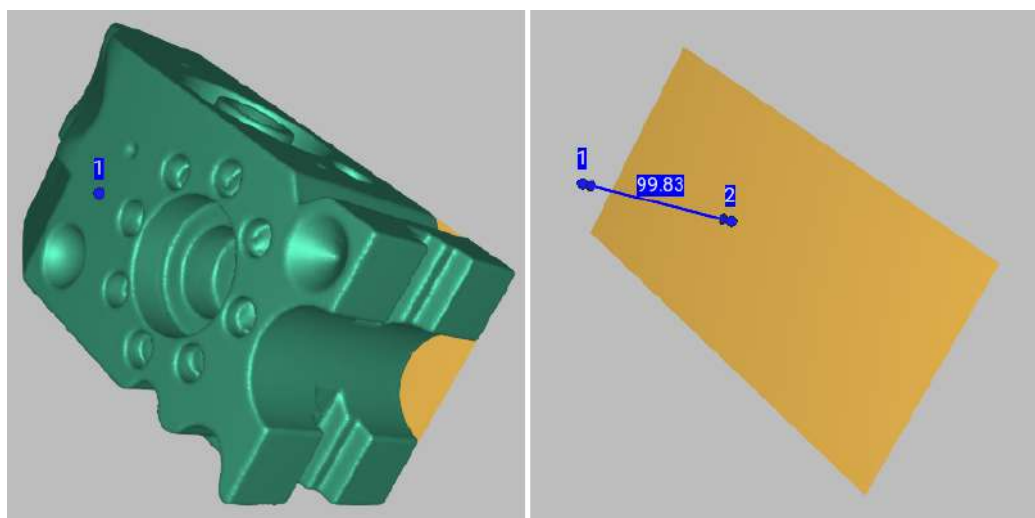

Figure 139: Thickness measurement: selecting a point on the side opposite to the plane (left), clicking the plane to determine distance to it (right).
1. In the *Construct* panel, build a plane (shown in orange in Figure 139) that fits the side surface of the model (find out in *Constructing CAD Primitives* how to do this).
4. Select any point on the side of the model opposite to the plane (Point 1 in Figure 139, left).
Artec Studio will automatically construct a perpendicular to the plane, determine the point of their intersection (Point 2 in Figure 139, right), and calculate the distance between the two points. This distance gives you the thickness of the model.